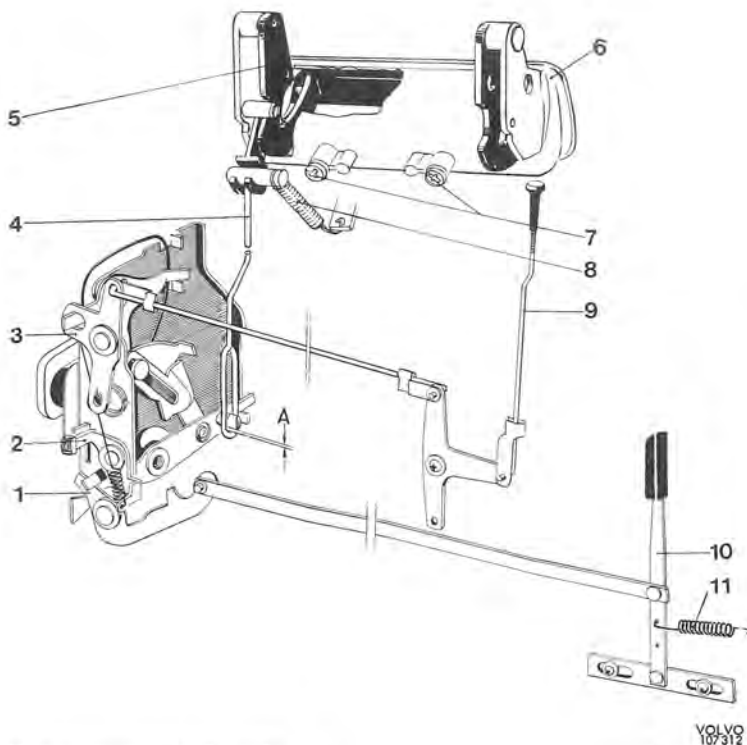

Fig. 8-14. Lock, rear doors
4. Unhook the return spring (8, Fig. 8-14) and lift out the handle and cover as one unit.
3. Unhook the return spring (8, Fig. 8-14).
4. Undo the screws (7, Fig. 8-14) and lift out the handle and cover as one unit.
1. Place the handle in position in the door and move the pull rod (4, Fig. 8-14) in the lifting arm for the handle.
2. Screw in the attaching screws (7, Fig. 8-14).
3. Check to make sure that there is a clearance (A, Fig. 8-14 of 1 ± 1 mm (0.04 ± 0.04 ")) between the pull rod eyelet and pin in the lock lever.
4. Install the return spring (8, Fig. 8-14) and check that the lock functions properly.